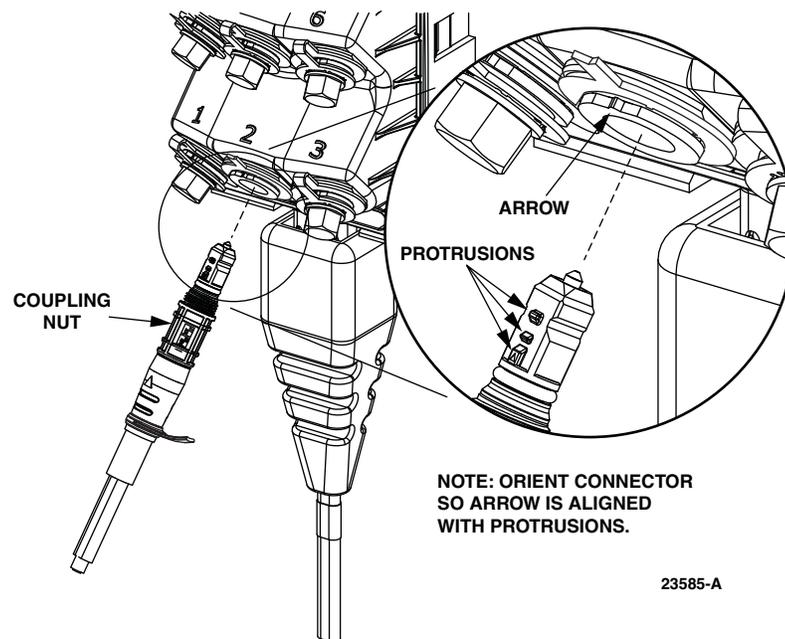

Figure 15. Typical Connection of a Drop Cable To MST Optical Port
5. Align the drop cable connector with the optical port as shown in Figure 15. The protrusions on the drop cable connector should line up with the arrow on the optical port.
3. Unscrew the drop cable connector coupling nut and remove from the optical port (see Figure 15).